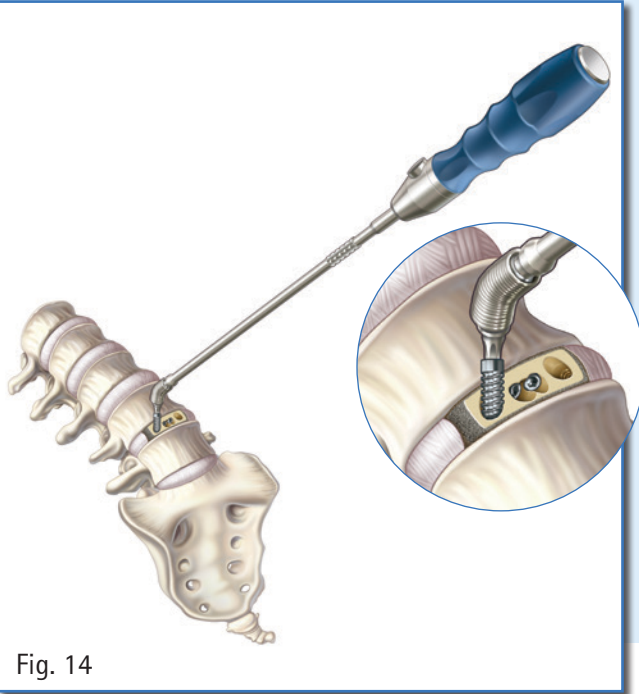

Fig. 14
- Turn the screwdriver in a clockwise motion to advance the bone screw into the vertebral body (Fig. 14).